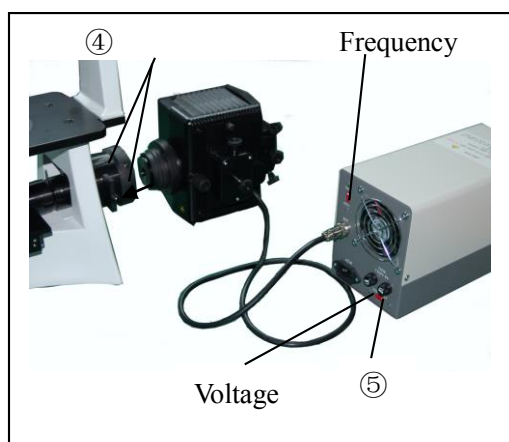

Fig 12
2.2.8 Assembly of the Fluorescent Attachment, Cable and Cord Connections (fig 12, 13)
2.2.9 Fuse Replacement (fig 12, 13)
- 2 Using a flat-blade screwdriver, remove each of the fuses holders⑦by tuning it counter- clockwise and pulling out.